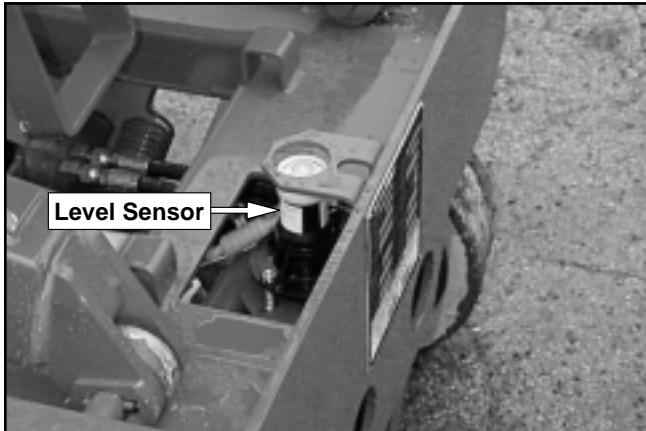

Figure 8.14—Level Sensor
3. From the lower controls, raise the platform to access the level sensor at the front of the chassis (refer to Figure 8.14).